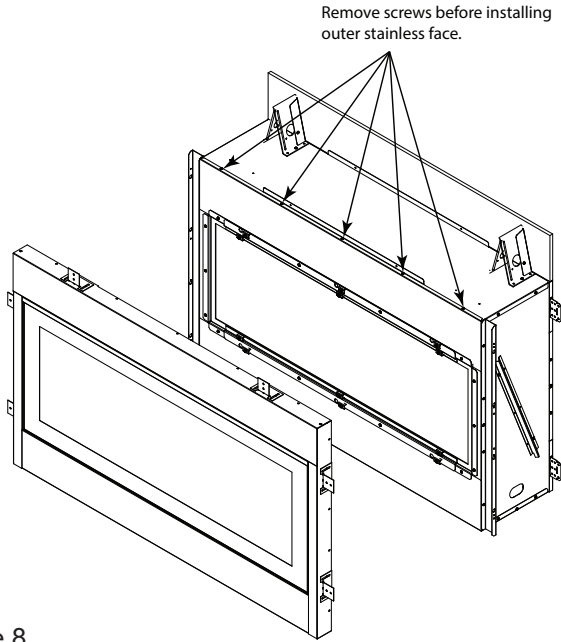

Figure 8
11. Remove the screws that attach the top face to the top pan so the outer stainless face can be installed. See Figure 8.
NOTE: To improve the thermal insulation properties of your outdoor kit, we recommend installing four (4) strips of non-combustible insulation (not supplied) behind the facing kit inside the perimeter of the outer frame. Before installing the face, install insulation with a thin coat of construction adhesive. See Figure 8.